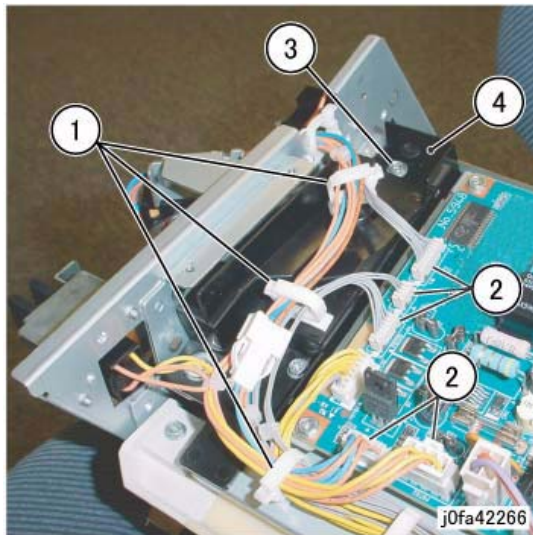

Figure 1 Removing the Connector Bracket
8. Remove the Connector Bracket (Figure 1):